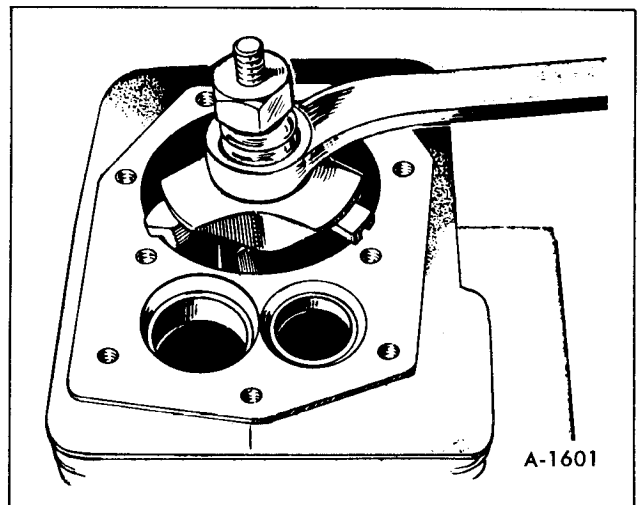

Figure 12-Removing Ridge From The Cylinder
3. Remove the ridge from the top of each cylinder with a ridge reamer before attempting piston removal (figure 12). Forcing the piston from the cylinder before reaming may cause damage to the piston lands.